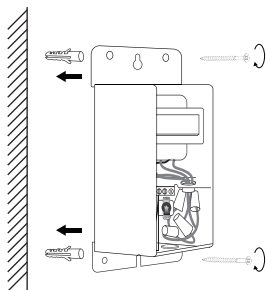

Figure 3
4. Use Screws and Anchors to fix the transformer on the wall (at least 1ft above the ground), making sure that the Wiring Compartments are facing down. (Figure 3)